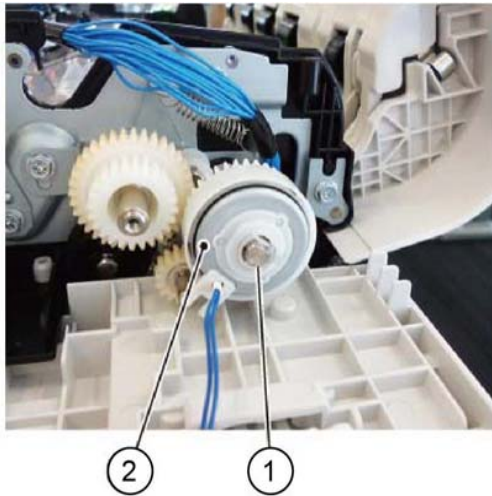

Figure 3 T/A clutch removal
10. Remove the DADF T/A clutch, Figure 3:
- a. Remove the E-clip (1).
- b. Remove the DADF T/A clutch (2).